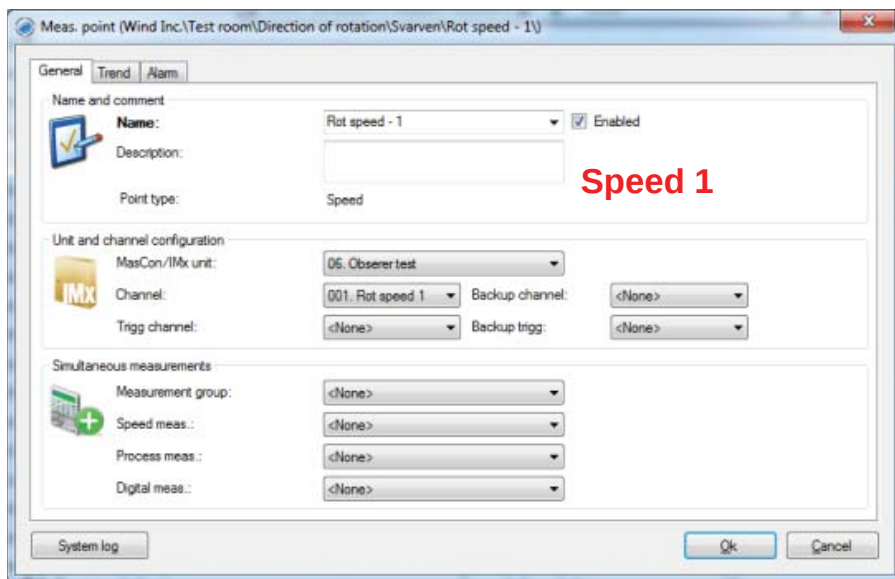

Fig. 5. Set up of digital channel 1.
- **Digital measurement points:** Go to **On-line/IMx units** and create two digital measurement points (→ **figs. 5 and 6**).